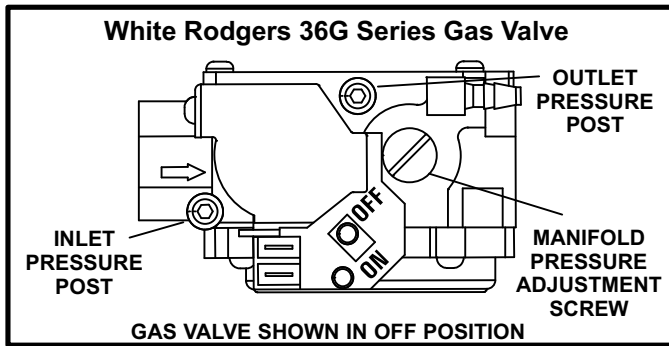

FIGURE 55
Gas Valve Operation (Figures 55 and 56)
- 6 - *White Rodgers 36G Gas Valve* - Move gas valve switch to **OFF**. See figure 55 for the White Rodgers 36G valve.
- 8 - *White Rodgers 36G Gas Valve* - Move gas valve switch to **ON**. See figure 55 for the White Rodgers 36G valve
The White Rodgers 36G gas valve (figure 55) is equipped with pressure posts for measuring supply and manifold pressures. The posts provide built-in hose connections and have an integral 3/32" Allen-head screw. Rotate the screw counterclockwise one full turn to permit pressure measurement. Reseat the screw (rotate one full turn clockwise) after measurements have been taken to prevent gas leakage.